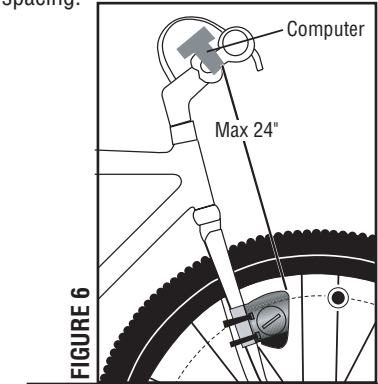
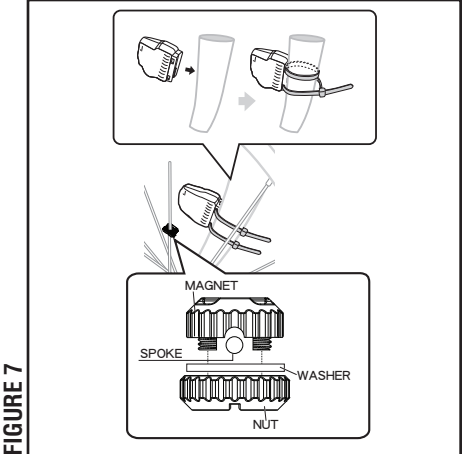

FIGURE 6
FIGURE 7
STEP 3: Using the included zip-ties, loosely mount the transmitter (so that you can slide it around) to the fork blade on the same side of the bike as the computer. See Figure 6 and Figure 7. The Ascent IO transmission range is 24” (60cm). The transmitter must be mounted within 24” of the computer in order for the computer to receive the signal. We recommend mounting the transmitter to the front (leading) edge of the fork blade to avoid problems in the event that the transmitter contacts the spokes during a ride.